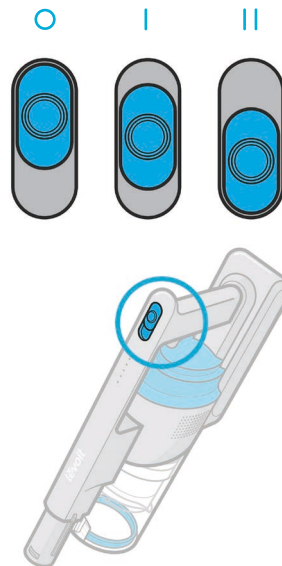

Figure 1.2
3. Slide the On/Off button forward to turn the vacuum on. Slide the button to Stage I for hard floors or small area rugs, or slide to Stage II for carpets [Figure 1.2].
4. Slide the On/Off button back completely to turn the vacuum off [Figure 1.2].